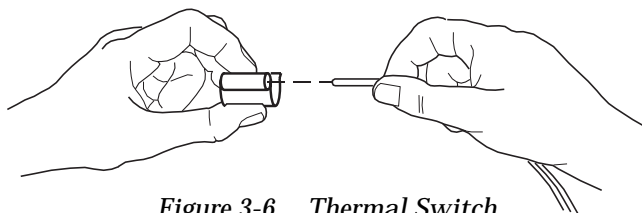

Figure 3-6. Thermal Switch
- Locate the thermal switch mounting clip supplied with kit HKN4059. Slip the mounting clip onto the thermal switch, from the power supply. Refer to Figure 3-6.